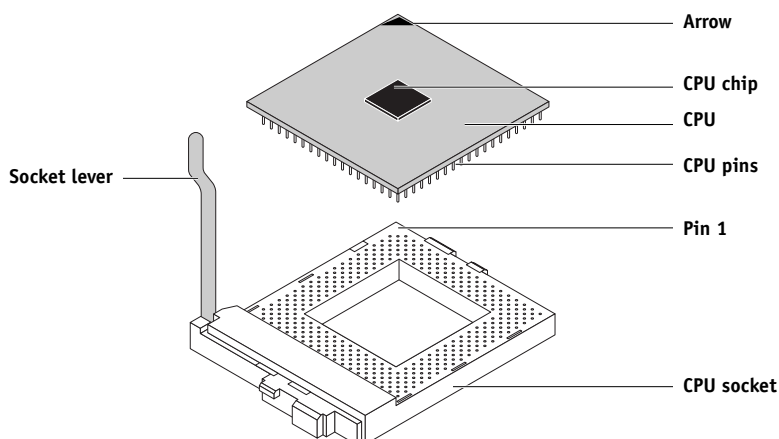

FIGURE 4-22 Replacing a CPU
4. Lift the CPU socket lever to release the CPU from the socket (see Figure 4-22 on page 4-32).
2. Insert the CPU into the socket. Make sure you align the arrow indicating pin 1 on the CPU with pin 1 in the CPU socket (see Figure 4-22).